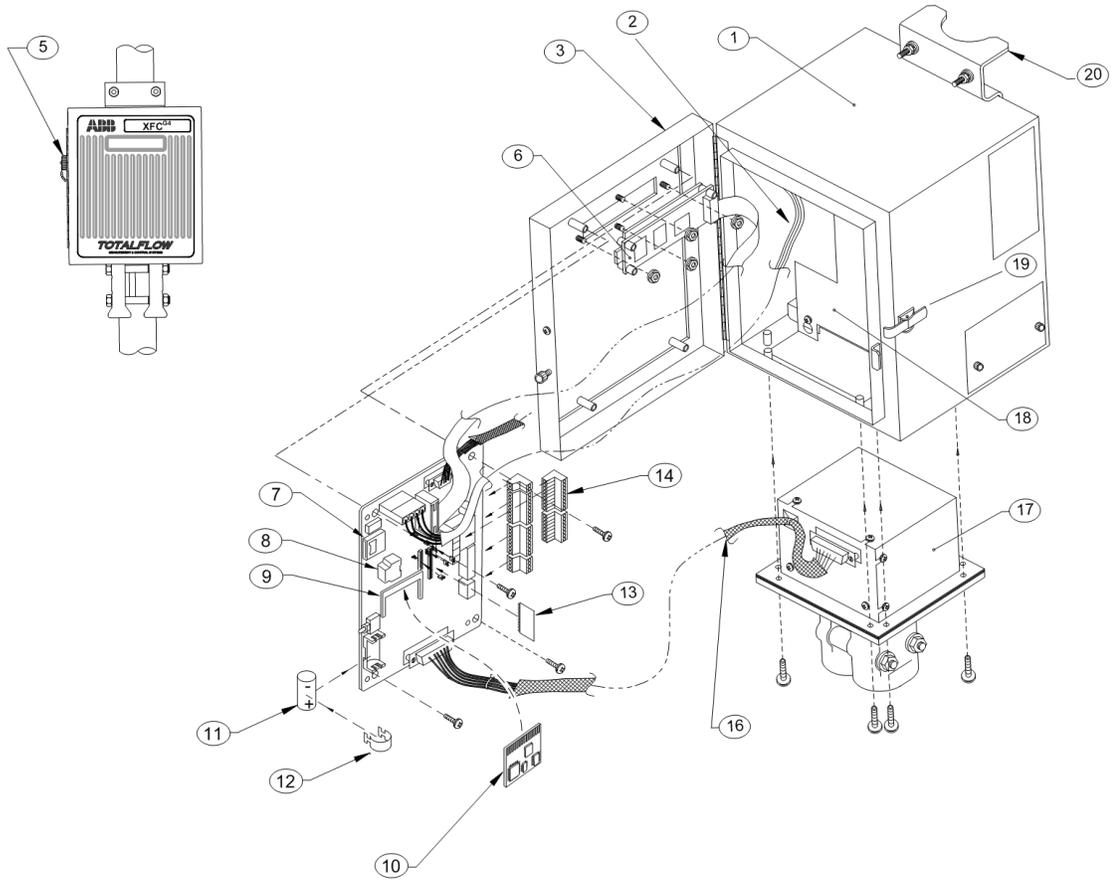
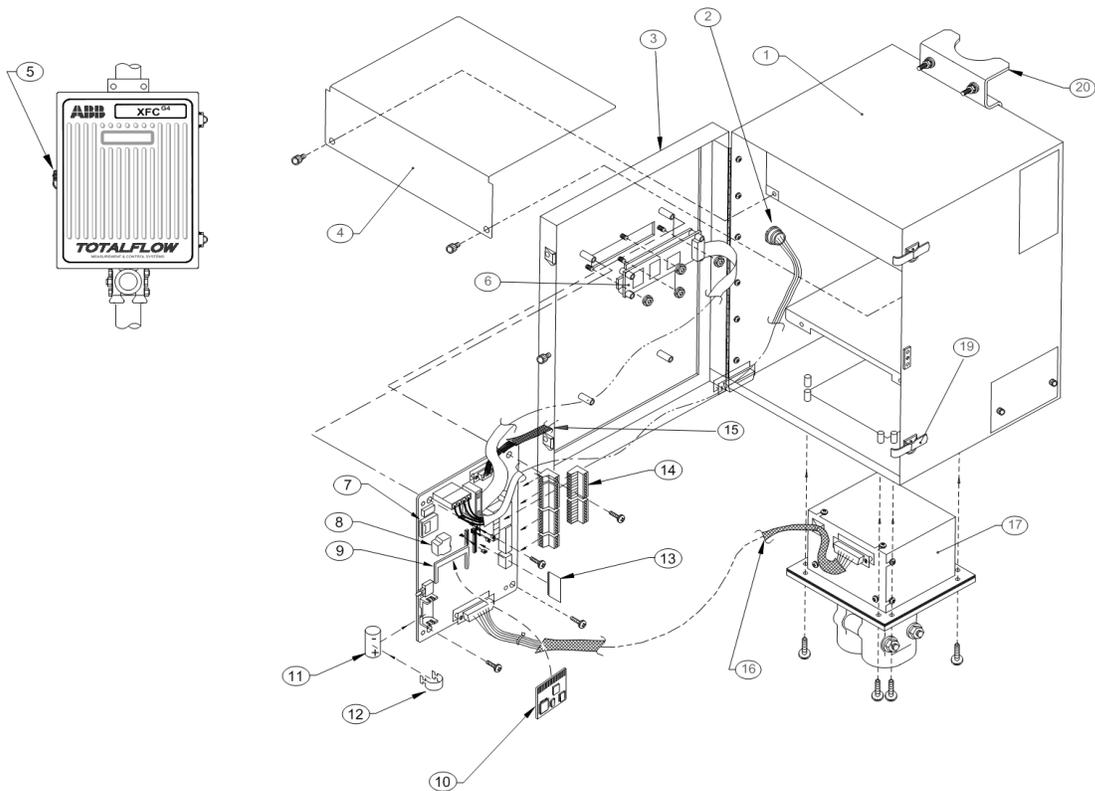

Figure 87: XFC^{G4} 6410 Component/Cable Locations
Figure 88 XFC^{G4} 6413 Component/Cable Locations
11. Remove the battery compartment cover (Figure 87: item 18).
The XSeries main electronic board is mounted to the backside of the flow computer access door on standoffs (Figure 87: or Figure 88). On models XFC^{G4} 6713 and XFC^{G4} 6714, the XFC^{G4} board is mounted below the LCD Screen.
15. Remove the four mounting screws and lock washers securing the flow computer panel (Figure 87: or Figure 88) to the door mounted standoffs.